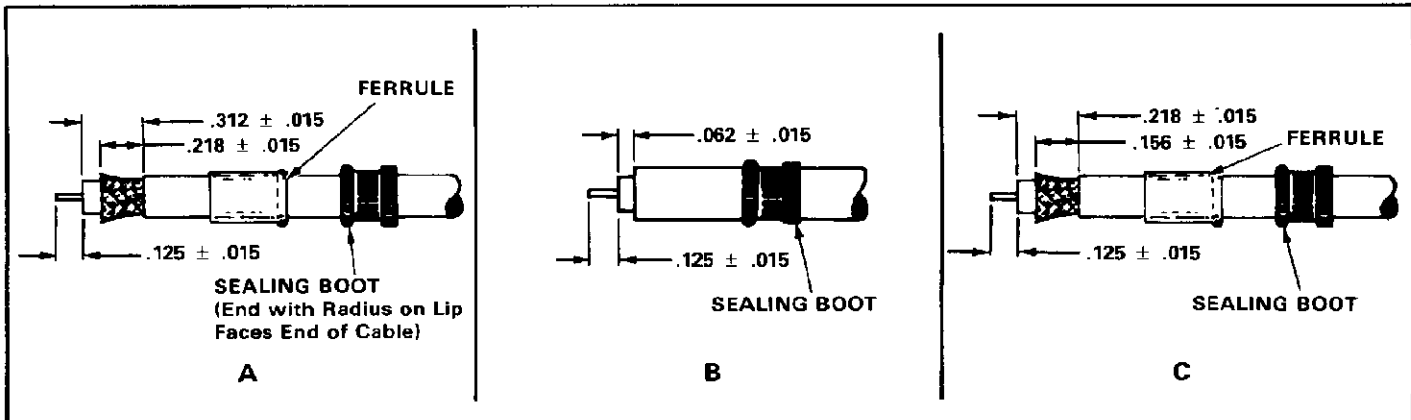

Fig. 2
Determine the cable size to be terminated and refer to the chart in Figure 1 to select the pin and socket connector assembly, center contact crimping tool, ferrule crimping tool, and stripping dimensions of the cable (see Figure 2).
When installing the sealing boot over the cable, make sure the end with radius on lip faces the end of cable. See Figure 2.
2. Strip the cable to dimensions referenced in Figure 1 and shown in Figure 2.